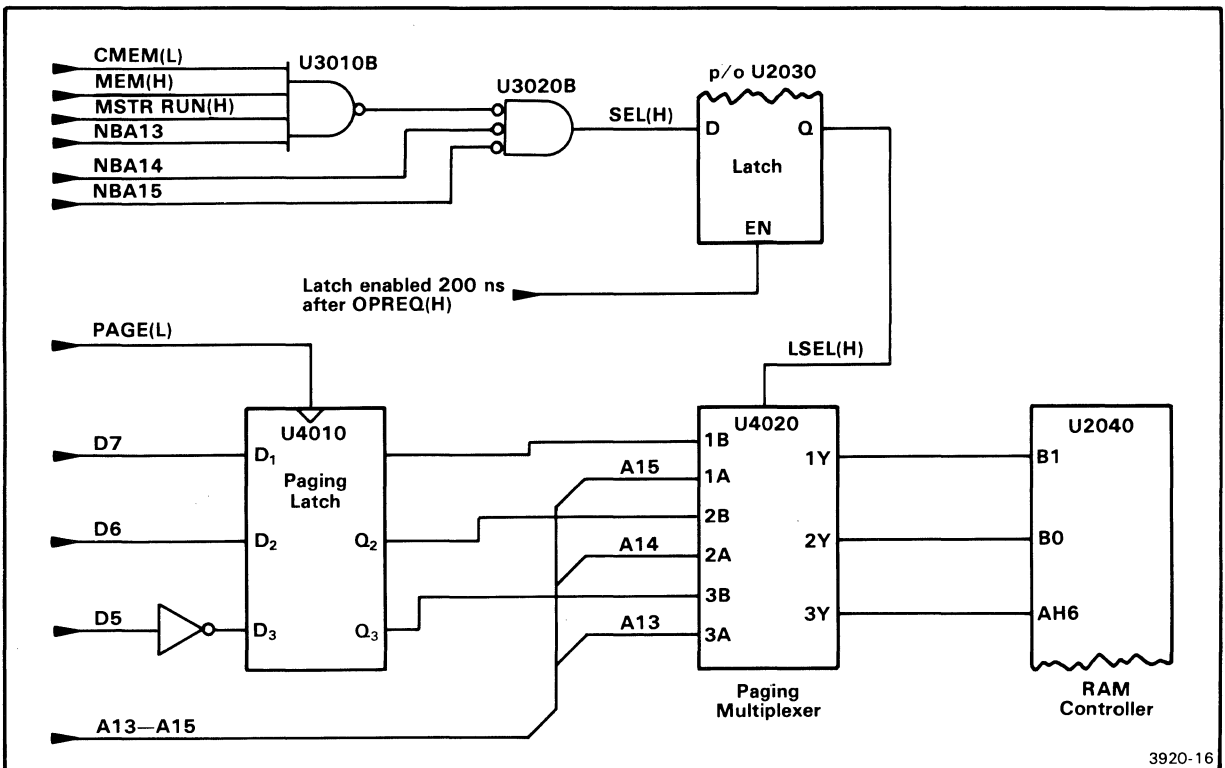

Fig. 6-3. Page Switching logic.
Figure 6-3 is a simplified schematic diagram of the page switching logic. I/O port address D3 is the page switching port. When address D3 is on the address bus, PAGE(L) goes low and clocks Paging Latch U4010. The data inputs to U4010 are presented to the "B" inputs of Paging Multiplexer U4020. Address lines A13--A15 are presented to the "A" inputs of U4020.